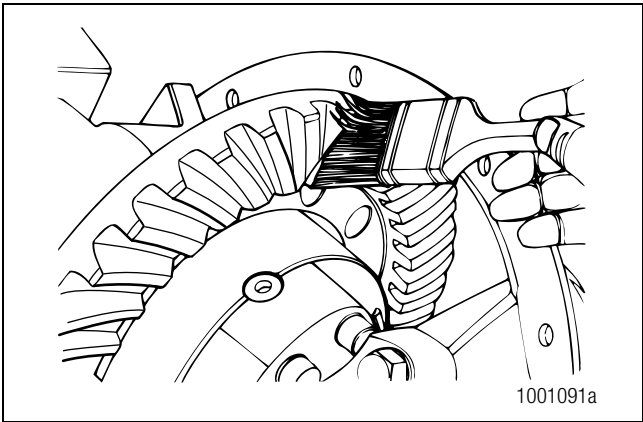

Figure 5.40
2. Apply a marking compound to approximately 12 gear teeth of the ring gear. Rotate the ring gear so that the 12 gear teeth are next to the drive pinion. Figure 5.40.